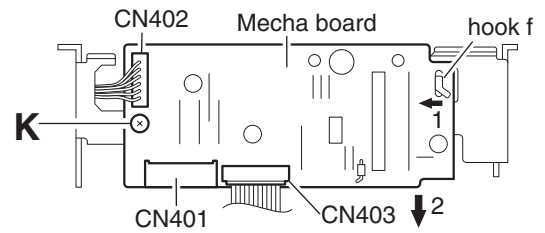

Fig.9
3.1.8 Removing the mecha board (See Fig.9)